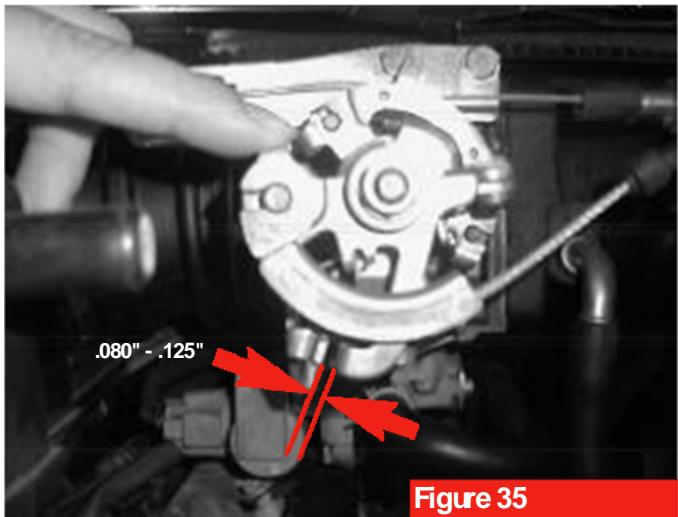
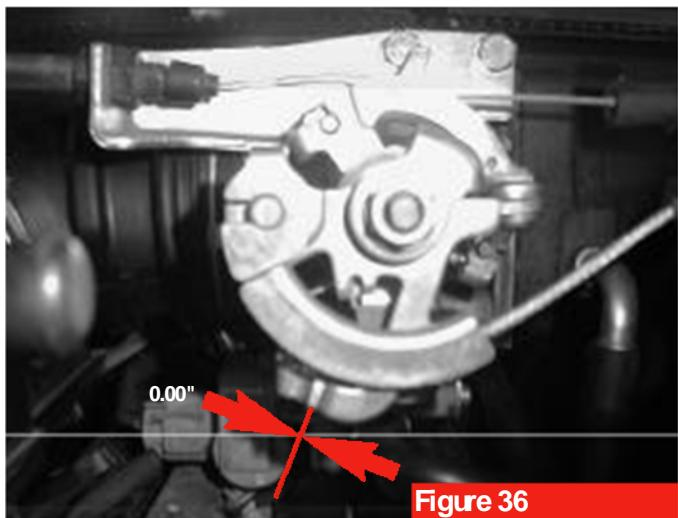

Figure 35
Figure 36
11. Proper throttle cable tension can be accomplished by viewing Figures 35 & 36. With slight but firm pressure you will be able to hear a distinctive "click" when pressing down (see figure 35). Release finger pressure and you should hear another "click" as bracket meets bracket (figure 36).